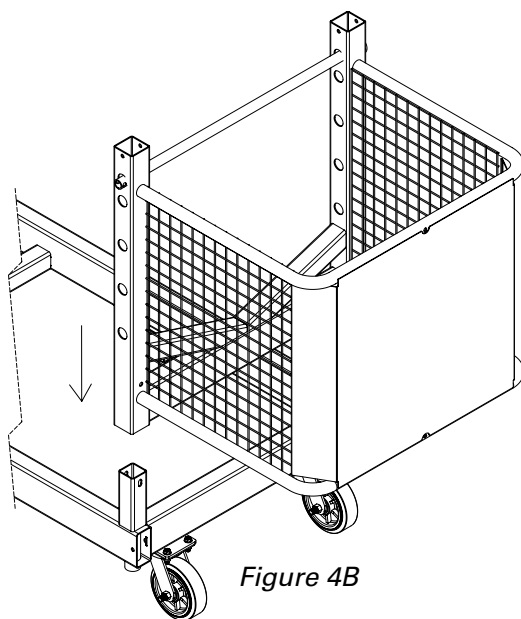

Figure 4B
2. Rotate the extension basket 180 degrees and slide it onto the base tubing uprights. (See Figure 4B).